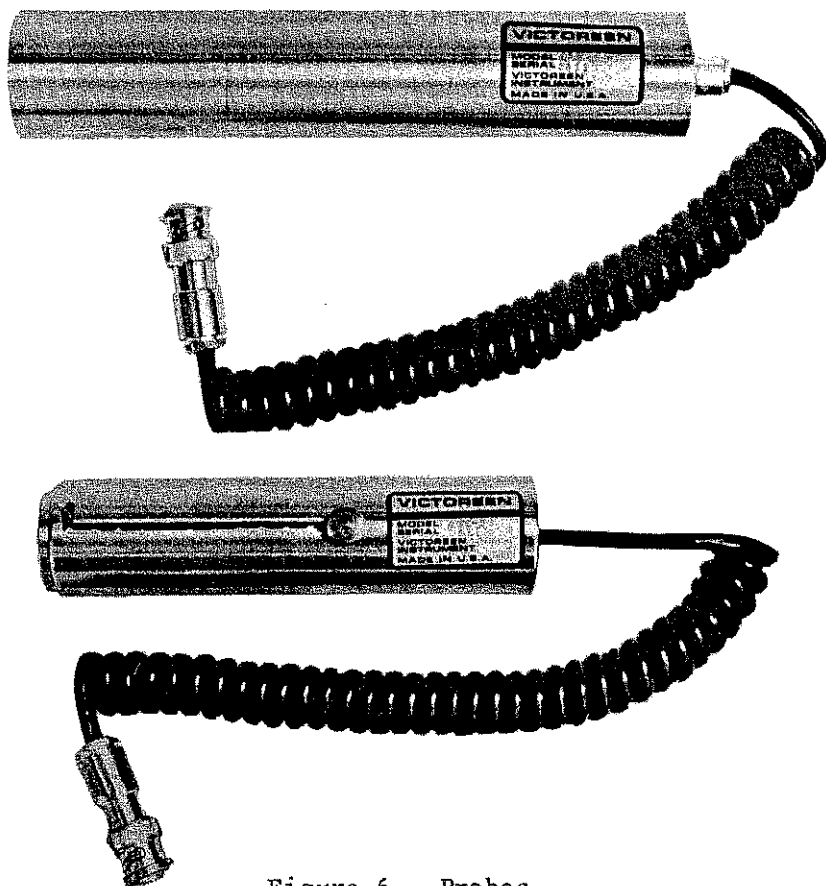

Figure 6. Probes
5.1   Probes - The standard probe for the 491 instrument utilizes a Lionel 112/6833 tube. The assembly is designated as a VICTOREEN Model 491-30 Probe as shown in Figure 6.